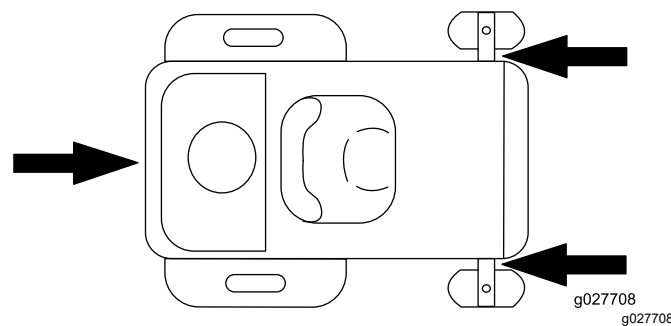

Figure 28
6. Tie down the machine near the front caster wheels and the rear frame with straps, chains, cable, or ropes (Figure 28). Refer to local regulations for tie-down requirements.